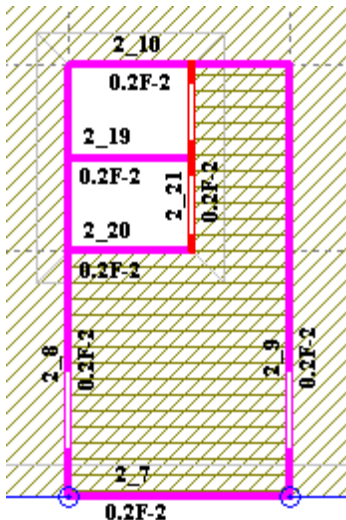

Figure 1.16.3 Notation for walls on the model
- ⇒ To display numbers and parameters of walls (see Fig.1.16.3) on the model, on the VIEW menu, click **Display options**.